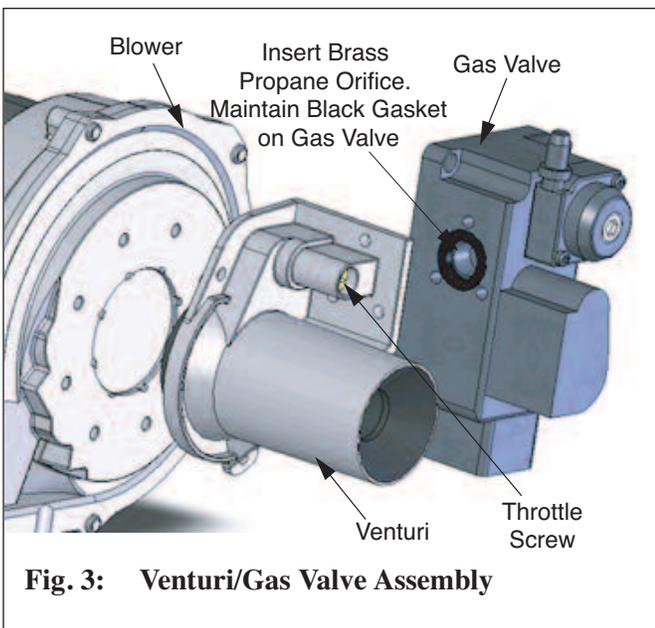

Fig. 3: Venturi/Gas Valve Assembly
16. Seat the brass orifice into the black gasket on the gas valve. The black rubber orifice gasket must remain attached to the gas valve as it will hold the orifice. See Fig. 3.